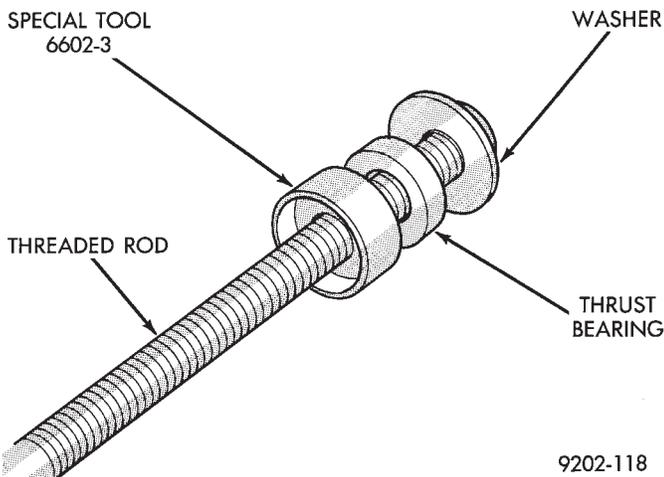

Fig. 5 Bushing Removal Tools
(1) Remove the special tools from the lower control arm that were used for the removal of the large pivot bushing.
(2) Remove the large Bushing Disc, Special Tool 6602-5 from the threaded rod. Leave the thrust bearing and washer on the threaded rod. Install the small Bushing Disc, Special Tool 6602-3 on the threaded rod and against thrust bearing (Fig. 5).
(3) Install the tools assembled in step 2 above through small lower control arm bushing and hole in